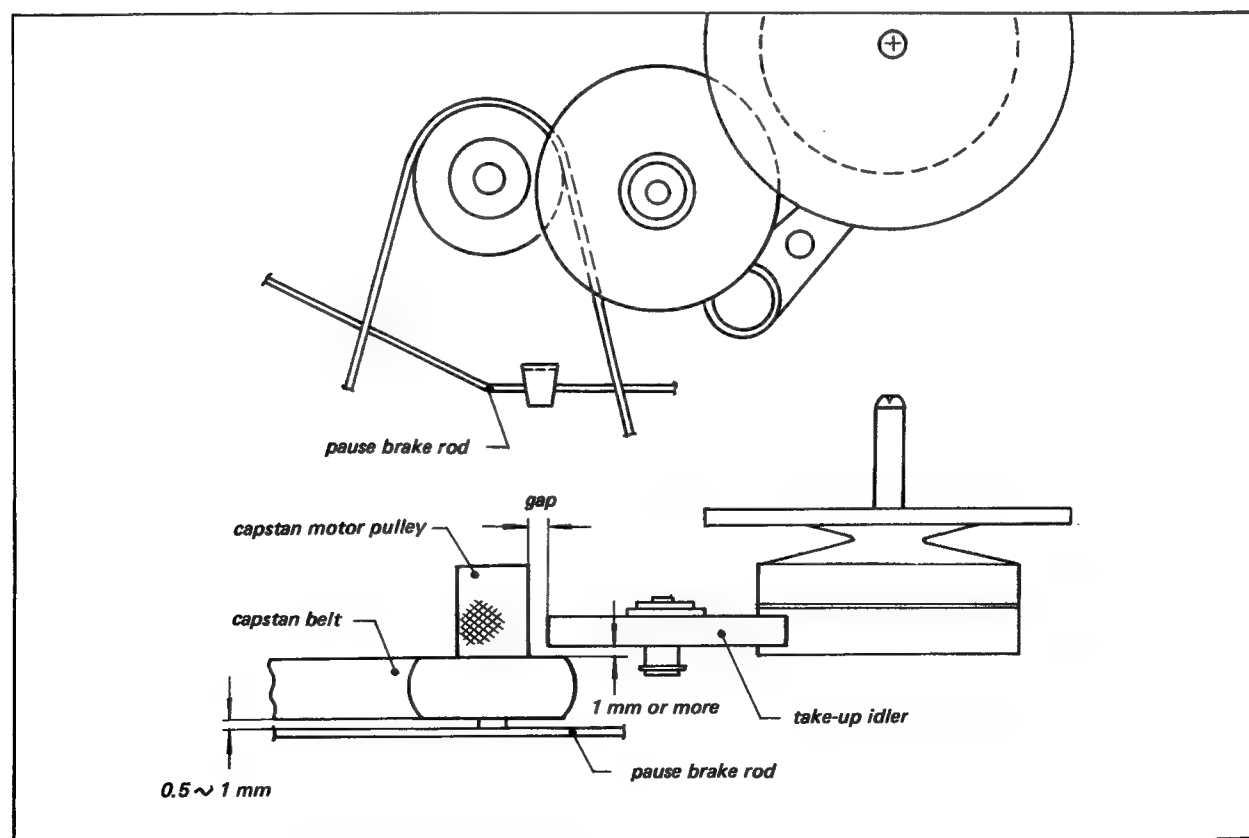

Fig. 4-11. Capstan motor pulley height
1. Make sure the Capstan Belt is clear of the Pause Brake Push Rod by 0.5 to 1 mm. See Fig. 4-11.
2. Check that the Capstan Motor Pulley is clear of the Take-Up Idler by more than 1 mm. See Fig. 4-11.